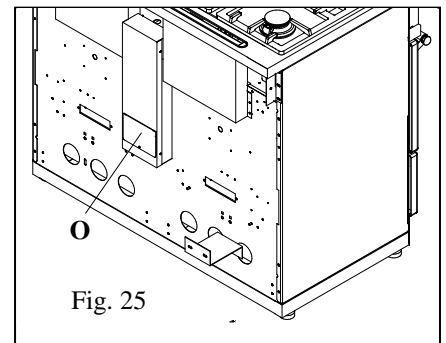
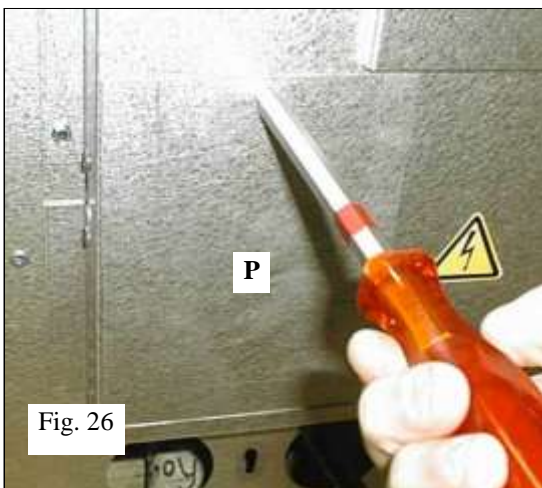

Fig. 25
Fig. 26
- Remove access door **O** (Figure.25, gas oven range) or **P** (Figure 26, gas and electric range).